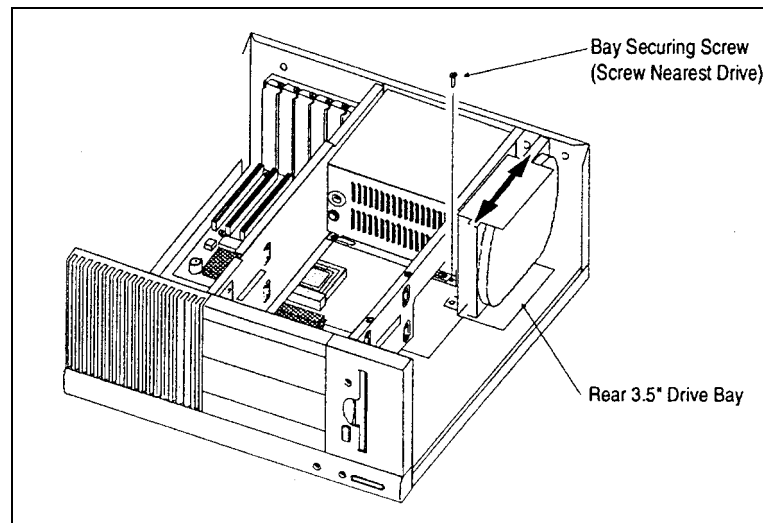

Figure 7-6. Rear Drive Bay Securing Screws
4. Remove the screws that secure the drive bay (Figure 7-6).